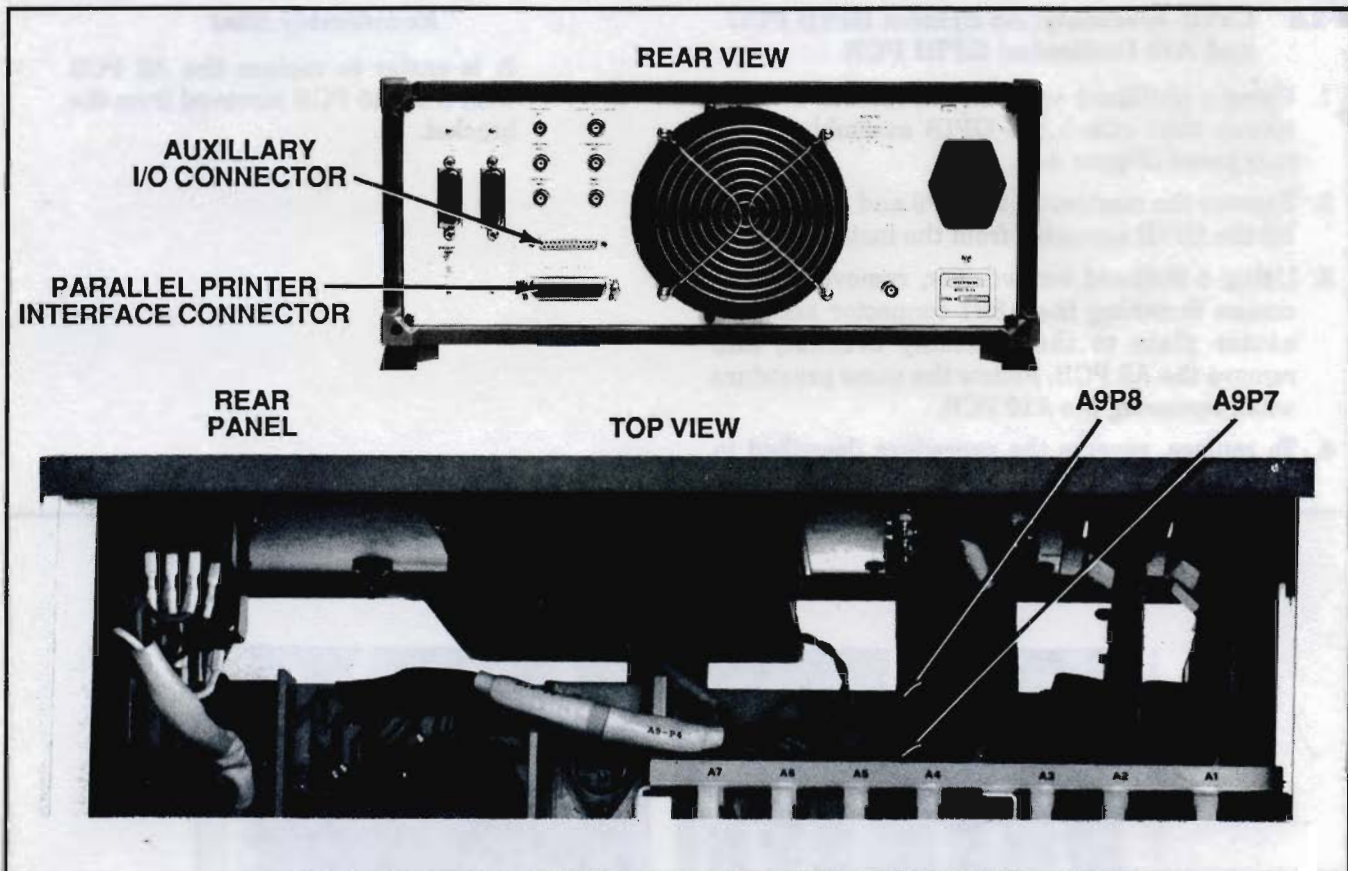

Figure 4-7. Replacing the Parallel Printer Interface and Auxillary I/O Connector/Cable Assemblies
1. Remove the two screws in the parallel printer interface connector with a phillips-1 screwdriver (Figure 4-7).
1. Remove the screws and washers with a 3/16" nut drive (Figure 4-7).